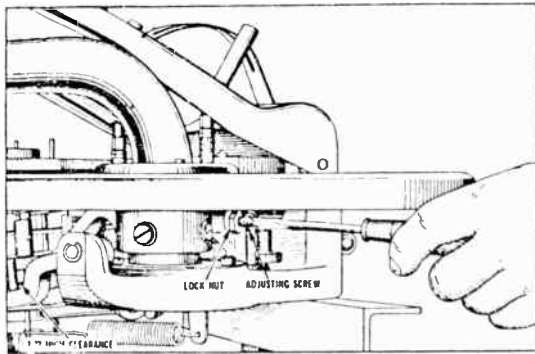

Fig. 2 - Adjusting Sound Box Lift Lever
Loosen the lock nut and adjust the sound box lift lever adjusting screw as shown in Fig. 2 until there is a clearance of approximately $\frac{1}{32}$ of an inch between the underside of the taper tube arm casting and the top of the sound box lift lever as shown. This clearance can be checked by placing a thin piece of cardboard between the two points and observing whether or not there is a dragging on the cardboard when the tone arm is moved towards the center of the record. *This clearance is highly important and will affect other conditions of the mechanism if not properly adjusted.*
2. **EXCESSIVE WEAR ON RECORDS** - If excessive wear on the records is noted, the same adjustments as described in subject 1 above should be made. It may be possible that the needle will move into the record groove after striking the smooth outside rim, but will cause excessive wear of the record due to a slight contact between the two points shown in Fig. 2 where the $1/32$ of an inch clearance should exist.
- b. If the condition is still not corrected, particularly if there seems to be a sluggish action of the return of the tone arm, remove the sound box lift lever spring as shown in Fig. 2, and increase its tension by shortening the straight section of the spring, bending it nearer the coiled section.